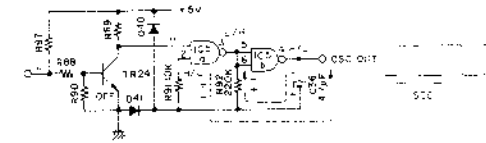

Fig. 10 Oscillation
R92 as shown by the solid line in Fig. 10.
According to this discharging time (the time constant of C36 and R92), there is a drop in voltage at both R92 terminals, so IC5a's input terminal ② is High Level. Once C36 has finished discharging, R92's voltage drop becomes zero so that IC5a's input terminal ② becomes Low Level. When the IC5a input terminal ② becomes Low Level, the output terminal ③ High Level results in IC5b output terminal ④ becoming Low Level, and this time, the discharge current flows from IC5a's output terminal ③ through R92 to C36 as shown by the dotted line in Fig. 10.